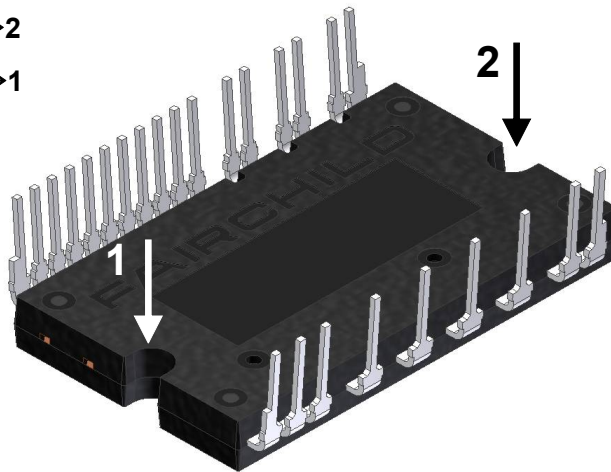

Figure 10. Mounting Screws Torque Order
13. Avoid one-sided tightening stress. Figure 10 shows the recommended torque order for mounting screws. Uneven mounting can cause the ceramic substrate of package to be damaged. The pre-screwing torque is set to 20 ~ 30% of maximum torque rating.